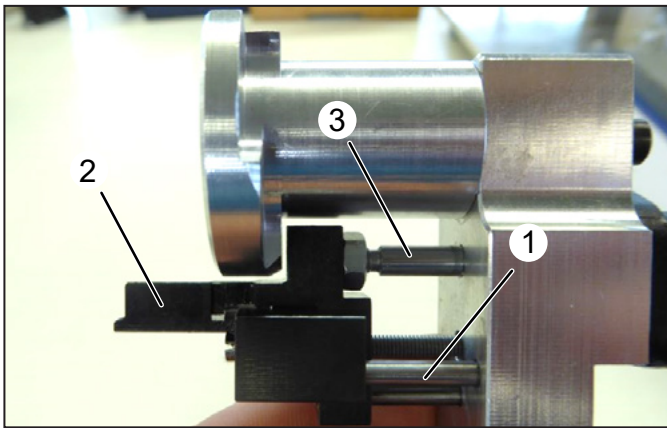

Figure 8.8 Check ferrule support table
- Check whether the rollers (1) on the crimp tool can move freely.
- Check whether the rollers (2) on the ferrule-holding tongs can move freely.
- Oil the guide pin (3) of the ferrule-holding unit.
- Oil the lateral running surfaces (4) of the ferrule-holding unit.
- Remove the strand clamping unit, see chapter Figure 8.8.
- Check that the ferrule support table (1) moves smoothly.